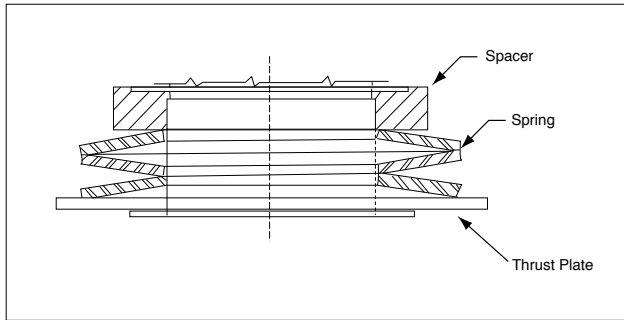

Figure 17 – Spring Pack Assembly
4. Stack springs in cover as shown in Figure 17.
5. Set thrust plate in cover as shown in Figure 17.
9. Place spacer provided with the spring pack in position on clutch as shown in Figure 17.